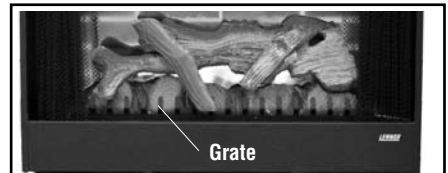

Figure 8
- a. Remove the 2 screws on the front of the grate. Remove Grate (see Figure 8).